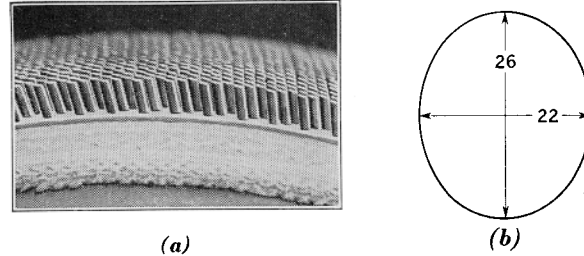

FIG. 7. CYLINDER CLOTHING, No. 22-26, 8-PLY
14. The clothing you studied in the preceding article was more or less the same as that on a cotton card. But the clothing shown in Fig. 7 (a) is different. This is a very heavy fillet, used for carpet wool and other coarse, matted fibers on the first breaker card. The foundation is 8-ply, with a wool face. The wool face makes stripping easier and helps to absorb the shocks while the wires work on the tangled fibers.
The wire on all the clothing we have studied so far was round in cross section, but the cross section of the wire in Fig. 7 (a) is double-convex, as indicated in the section, sketch (b). The gauge is given as No. 22-26, because the shorter diameter is equivalent to No. 22, the longer diameter to No. 26. This form of the wire has at least two advantages: 1) the long diameter adds strength to the wire; 2) the short diameter gives room for the fancy to lift the stock to the surface. Also, as you'll realize when you study card grinding, double-convex wire takes and holds a sharper point.